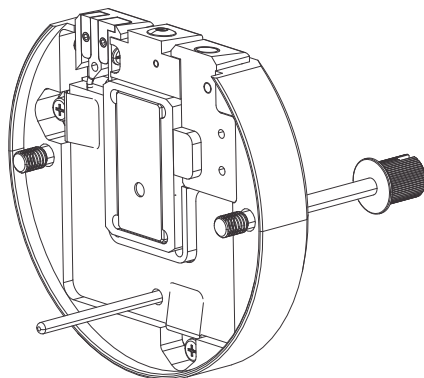

Figure 8-3. Front of the IC source heater interface
4. Loosen the two thumbscrews even further and use them to pull out the IC source heater interface (Figure 8-3).